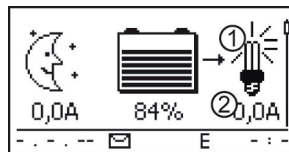

Fig. 15 Display content after connecting the load output
3. ➔ Switch on the load output. The lamp ① (Fig. 15) appears on the display.
4. ➔ Switch on the load. Load currents ② greater than 0.1 A are shown on the display.
5. ➔ If Fig. 15 is not displayed then check the installation and if necessary correct the error using section 15.